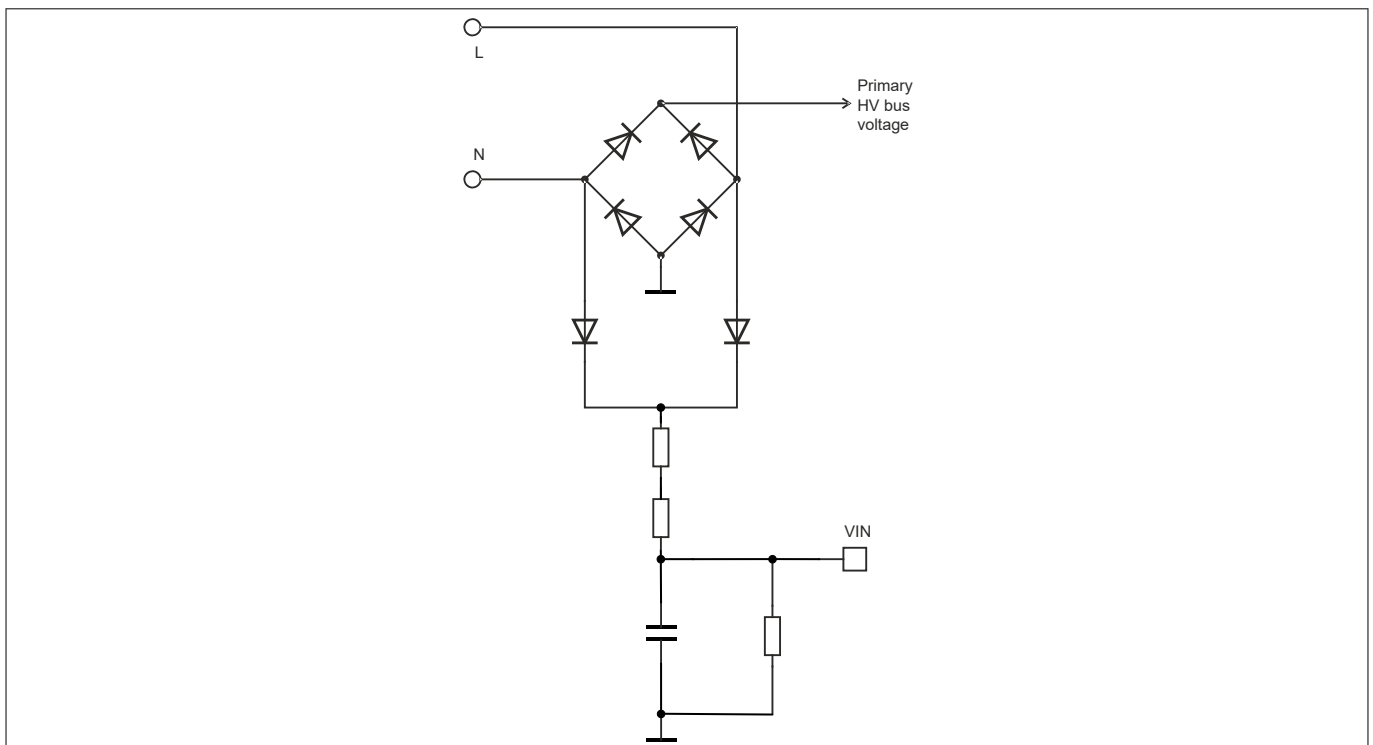
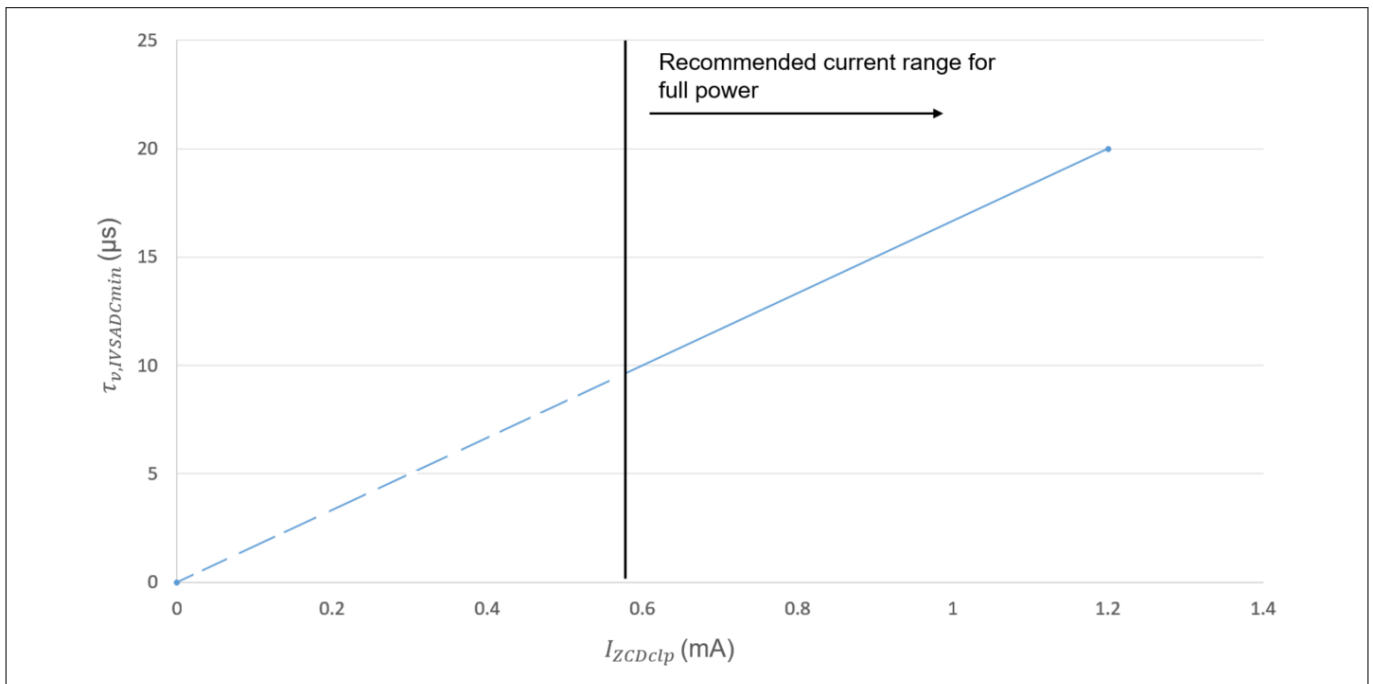
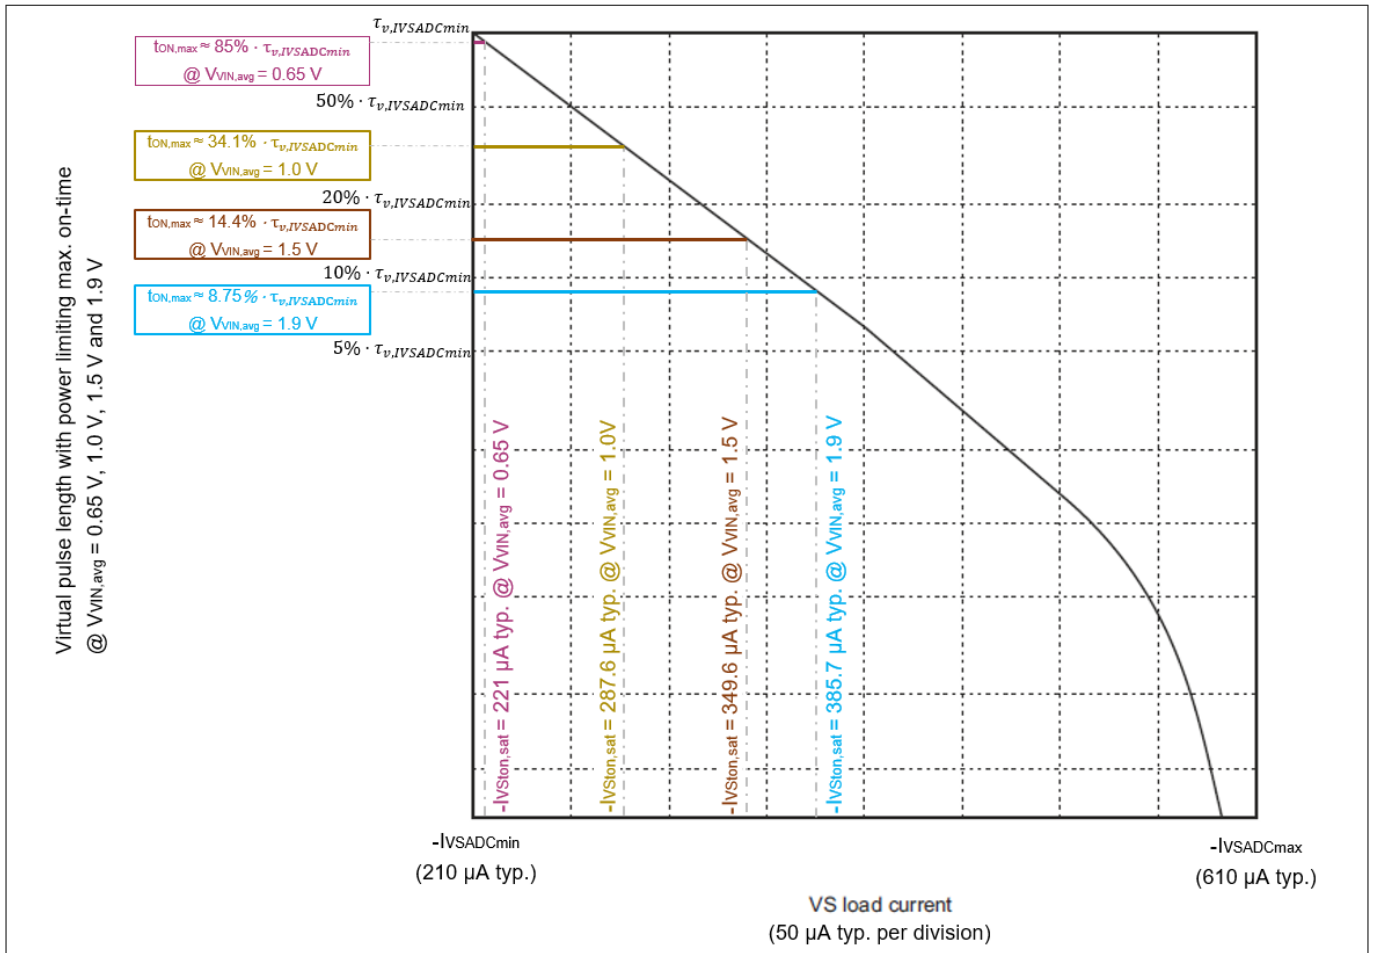

Figure 6 V_{IN} pin circuit
Figure 14 Virtual pulse length at $I_{VSADCmin}$, $\tau_{v,IVSADCmin}$ versus ZCD peak to peak settled clamping current, I_{ZCDclp}
Figure 15 Virtual pulse length mapping with power limiting maximum on-time effect
1. Based on $I_{ZCDclp} = 1.2 \text{ mA}$, obtain $\tau_{v,IVSADCmin} = 20 \mu\text{s}$ from Figure 14.
For $t_{ON,max}$ estimation, it is important to note that $\tau_{v,IVSADCmin}$ changes with different $V_{VIN,avg}$ level, when the input voltage detection circuit in Figure 6 is applied. This is because $\tau_{v,IVSADCmin}$ is scaled exponential depending on I_{ZCDclp} in Figure 14, while I_{ZCDclp} is dependent on the input voltage, as explained in ZCD pin signal sensing.
Figure 15 shows the virtual pulse length with the power limiting maximum on-time effect, when $V_{VIN,avg}$ is 0.65 V, 1.0 V, 1.5 V and 1.9 V, respectively.
When $V_{VIN,avg}$ is at the brownin level ($V_{BI} = 0.65$ V typ.), the power limitation is enabled with $t_{ON,max} = 85\%$ of $\tau_{v,IVSADcmin}$, as shown in Figure 15. For example, if the desired $t_{ON,max}$ at brownin level is 17 µs typ., it is necessary to have $\tau_{v,IVSADcmin} = 17 \mu s / 85\% = 20 \mu s$. And, according to Figure 14, $\tau_{v,IVSADcmin} = 20 \mu s$ is obtained when $I_{ZCDclp} = 1.2$ mA is applied. As a result, to achieve $t_{ON,max} = 17 \mu s$ typ. at brownin level, R_{ZCD} should be dimensioned to produce $I_{ZCDclp} = 1.2$ mA typ. at brownin level.